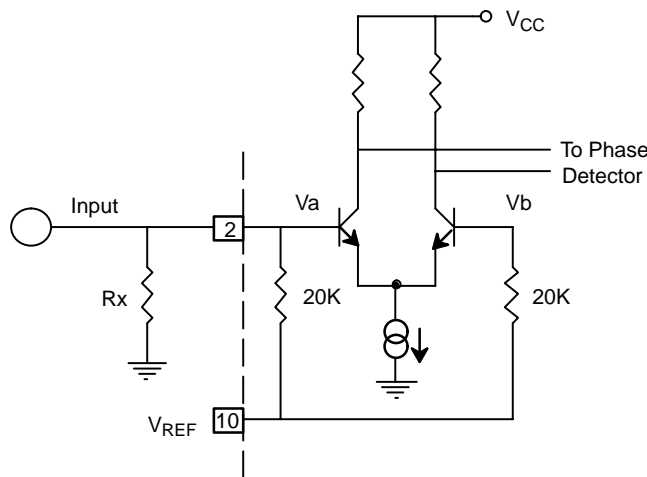

Figure 4. Desensitizing Input Stage
- f) The input to the XR-2211 may sometimes be too sensitive to noise conditions on the input line. *Figure 4* illustrates a method of de-sensitizing the XR-2211 from such noisy line conditions by the use of a resistor, R_x , connected from pin 2 to ground. The value of R_x is chosen by the equation and the desired minimum signal threshold level.